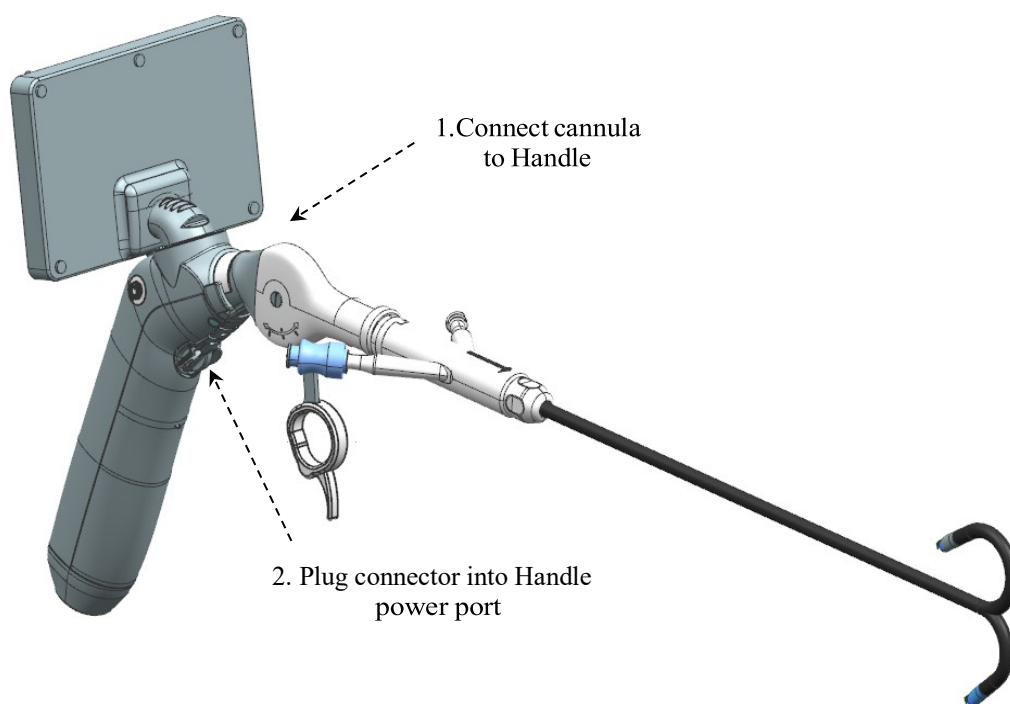

Figure 2. Attach Cannula to Handle
- 5.2.4. Once cannula is connected, insert the male USB connector of the disposable cannula into the USB female connector on the handle. See Figure 2.
- 5.3.2. Attach the cannula to the handle. See figure 2. (For detailed instructions on connecting the cannula refer to section 5.2).